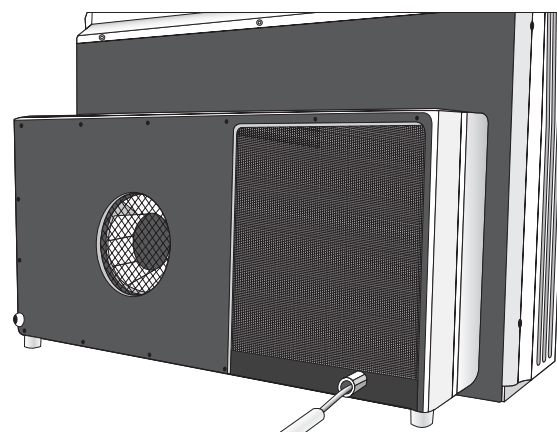

fig. 4
**NOTE:** cut the galvanized metal sheet of rear side as indicated in the drawing (fig. 4).